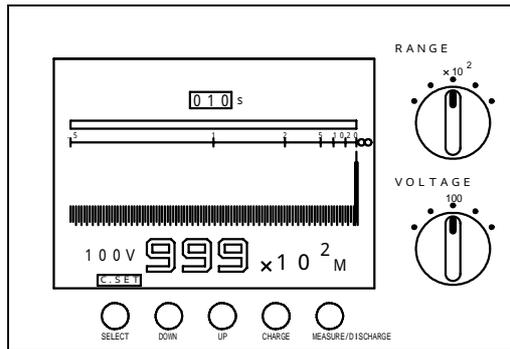

Fig. 6.6.4
- 4) Using the UP or DOWN switch, set the charging time to **010** seconds. (Fig. 6.6.4)